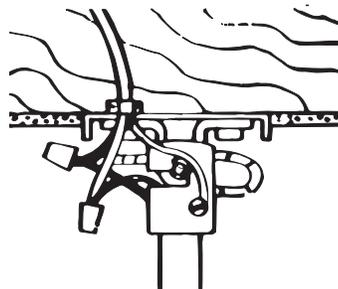

Figure 8
3. Connect the ground wire to the green screw on the side of the hanger bracket. See Figure 8.